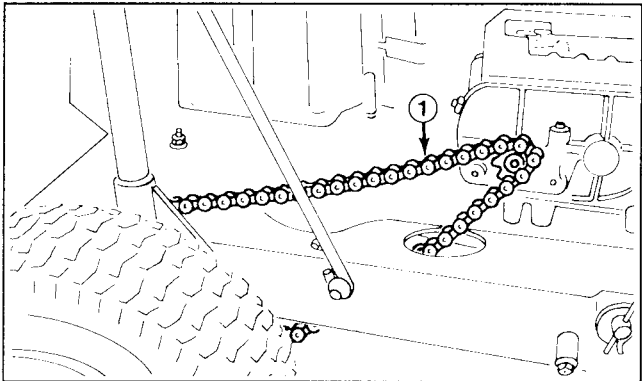
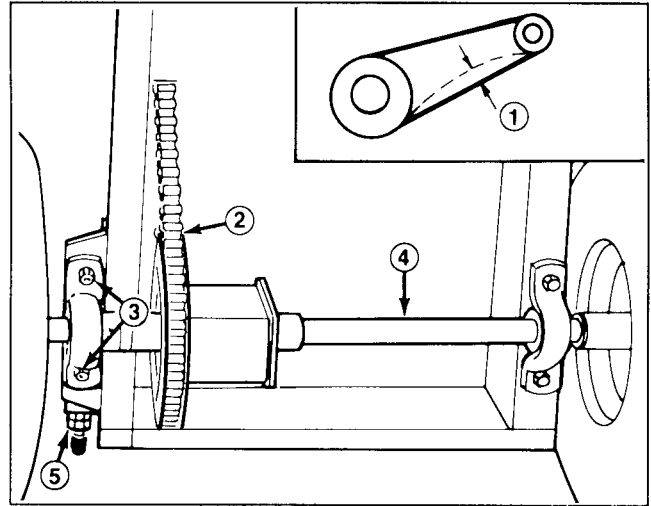

Figure 23
Figure 24
2. Check deflection of drive chain by lifting up and pressing down on chain with moderate pressure at mid span (Fig. 23). There should be 1/8 of an inch (3 mm) total deflection (Fig. 24). If deflection is not as specified, an adjustment is required – steps 3-13.
7. Loosen four flange nuts securing pillow blocks w/differential axle to the rider frame (Fig. 24).
8. Loosen rear jamnut on chain tensioner (Fig. 24).
11. Since differential axle must be parallel to rear of chassis, measure distance from center of pillow blocks to rear of chassis (Fig. 24). Difference between the two measurements must not exceed 1/8 inch. If difference exceeds 1/8 inch, differential axle is not parallel with chassis; therefore it must be readjusted.